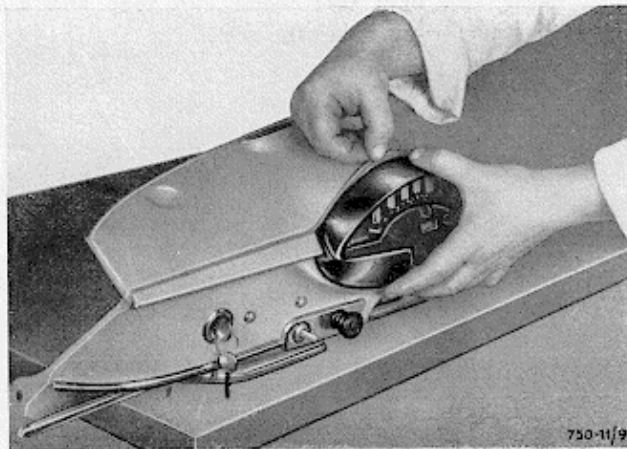

Fig. 8 - Refitting the instrument panel
- place the panel in its housing; make sure that it is correctly positioned and that the VIPLA strip at the top of the panel is properly tensioned (Fig. 8);